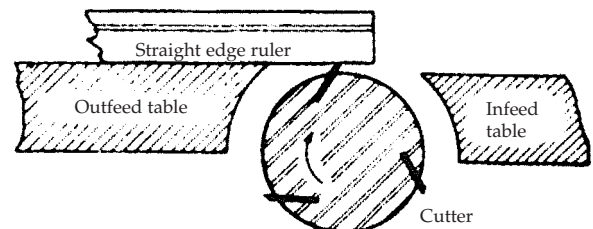

FIGURE 31
3. Place a steel straight edge on the outfeed table, extending over the cutterhead as shown in Fig. 31.